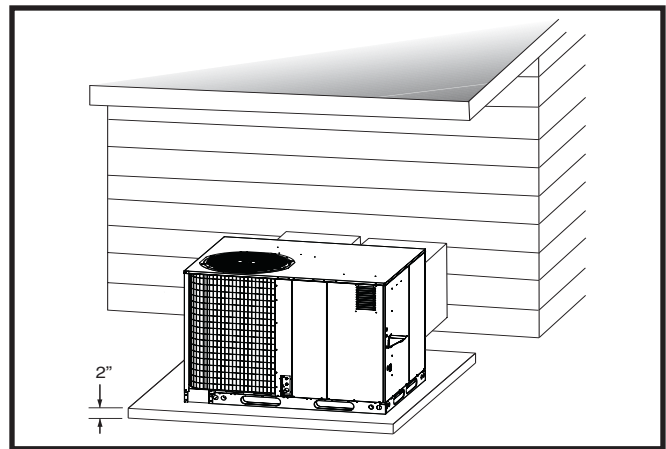

Figure 3. Ground Level Installation
- A suitable mounting pad must be provided and be separate from the building foundation. The pad must be level to ensure proper condensate disposal and strong enough to support the unit's weight. The slab height must be a minimum of 2" (5cm) above grade and with adequate drainage. See Figure 3.